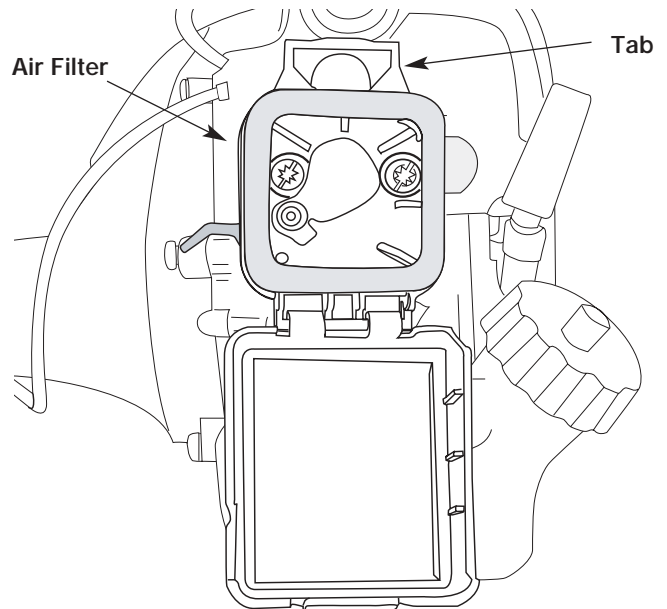

Fig. 21
2. Remove the air filter (Fig. 21).
6. Reinstall the filter (Fig. 21) and air filter cover.